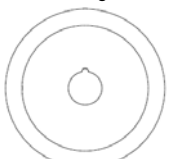

Fig. 6.2.2
- The "strip-cutting" system is made up of round blades (Fig. 6.2.2) paired with one another that cut the meat into strips; strips of different thickness can be obtained by varying the thickness of the spacers.